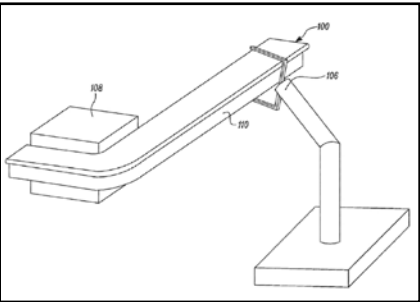

Figure 2. Robotic arm assembly
- Stiffening custom parallel cable into a structural shape for automated assembly into the car by a robotic arm (Fig. 2).